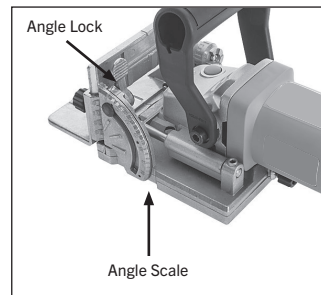

Fig 12. Location of cutting angle adjustment components.
1. Release angle lock (see Figure 12).